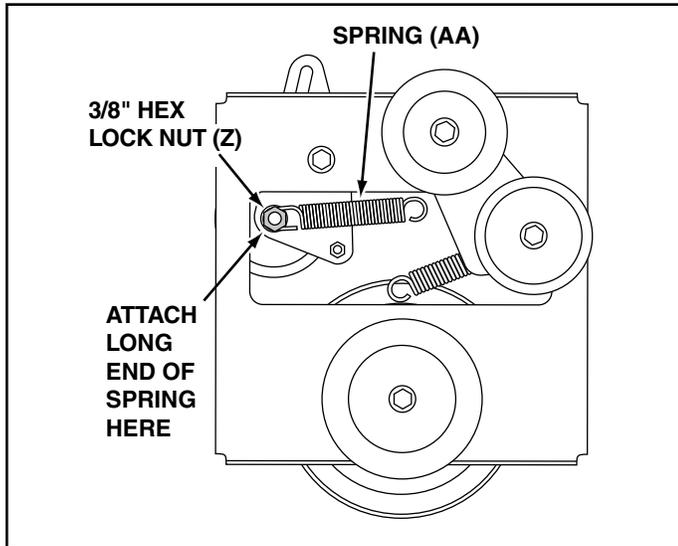

FIGURE 41
STEP 41: (SEE FIGURE 41)
- Hook the long end of the spring (AA) onto the end of the bolt that extends through the nut on the bottom of the upper idler arm. Install a 3/8" hex lock nut (Z) onto the bolt, leaving enough space for the spring to pivot.